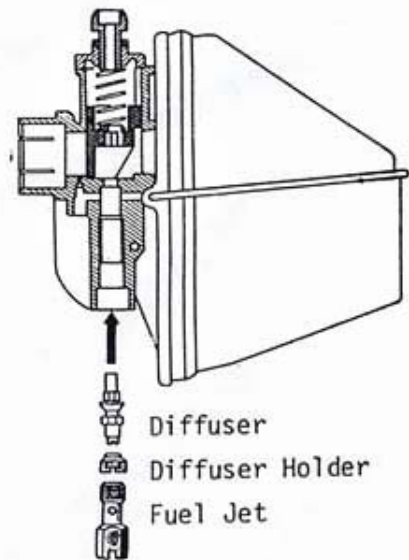

Fig. 3
- Remove the fuel jet (8mm wrench or screwdriver) and clear it if necessary with an air stream (fig. 3).